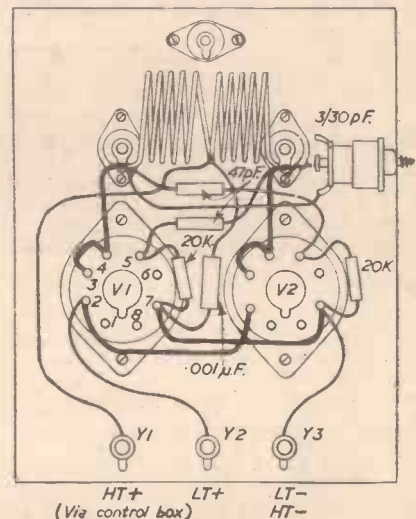

Fig. 3.—Wiring diagram for the two-valve transmitter.
should then be mounted in the two large holes, with the keyways for the valve spigots in the position shown in Fig. 3. Three Eddystone midget stand-off insulators are then mounted
Systoflex tubing slipped over the bare wire for insulation. Remember that for electrical work it is important to use a hot, well-tinned soldering iron and that corrosive fluxes like spirits of salt must be avoided. Use either stick solder and Fluxite or else a cored solder like Ersin Multicore. Now proceed as follows, referring to Fig. 3 :
N.B.—For the sake of clarity, details of 12 and 13 have been omitted from Fig. 3.